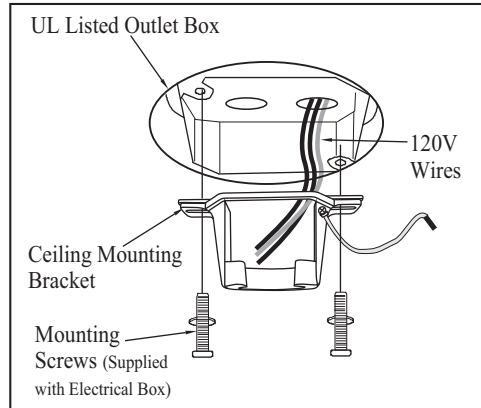

Figure 6
1. Pass the 120-volt supply wires through the center hole in the ceiling mounting bracket as shown in Figure 6.
2. Install the ceiling mounting bracket on the outlet box with the screws and washers provided with your outlet box. (Figure 6)